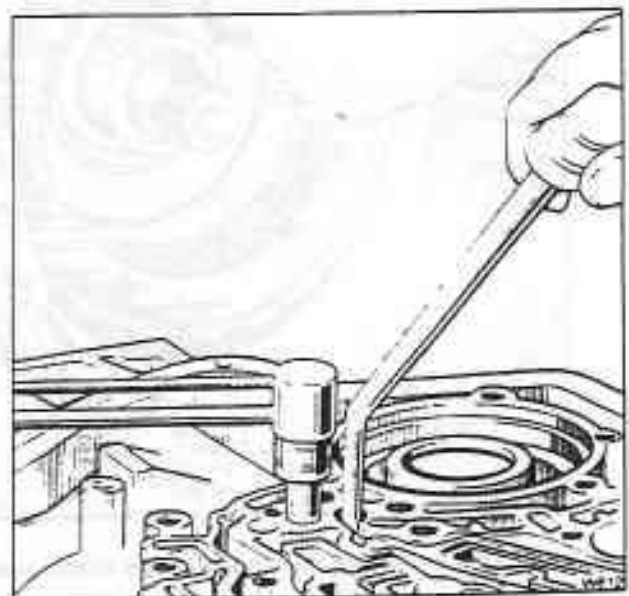

Fig. T19-22 Locating the centre support
10. While holding the centre support firmly anti-clockwise against the case splines, torque tighten the case to centre support bolt to the figures quoted in Section T22, using a  $\frac{3}{8}$  in UNC 12 point thin wall, deep socket (see fig. T19-22).